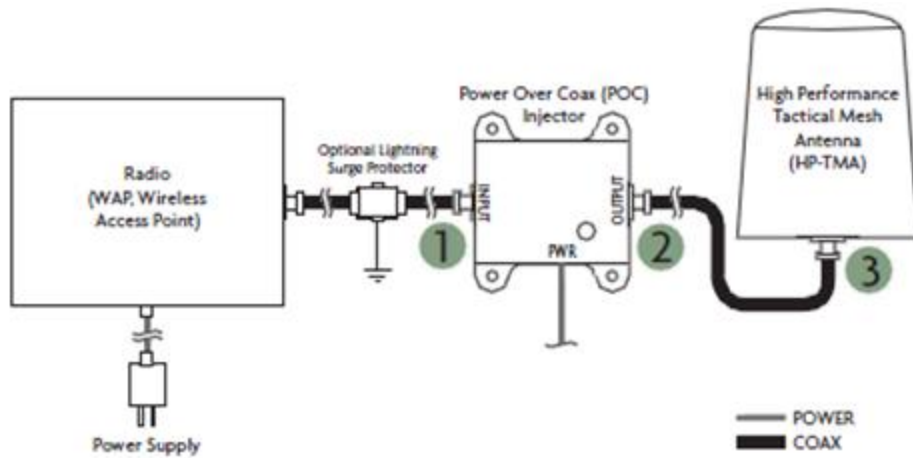

Figure 7
1. Connect the coax from the appropriate antenna port of your radio to the side of the SPOC labeled INPUT, Figure 7, 1. (Radios with multiple antennas often have a primary antenna port. The HP-TMA should be connected to this primary port. See your radio manufacturer's set-up guide for more information) The SPOC has an N-Male connector, (See your radio's manufacturer set-up guide for more information on the required connector for your Radio).
1. Connect the direct DC (M12 connector) cable to the PWR port of the SPOC injector, Figure 7 1 (next page).